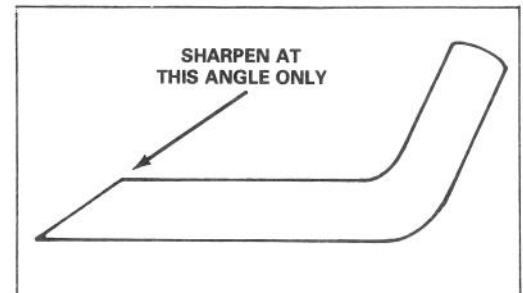

Figure 17
6. SHARPENING BLADE — Using a file, sharpen top side of blade and maintain original cutting angle (Fig. 17). The blade will remain balanced if same amount of material is removed from both cutting edges.